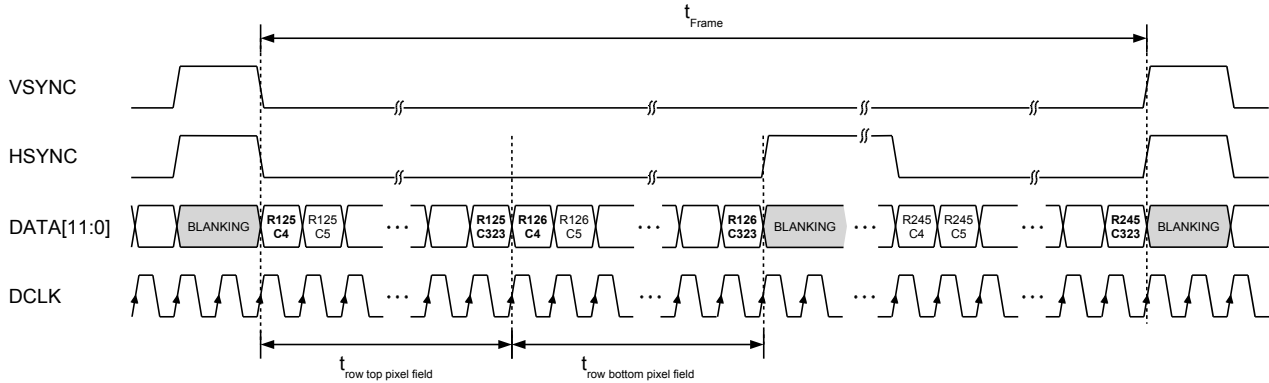

Figure 29: 12-bit mode data readout
- 12-bit mode: Transfers 12 bit pixel data with 1x DCLK (default). Refer to Figure 29.